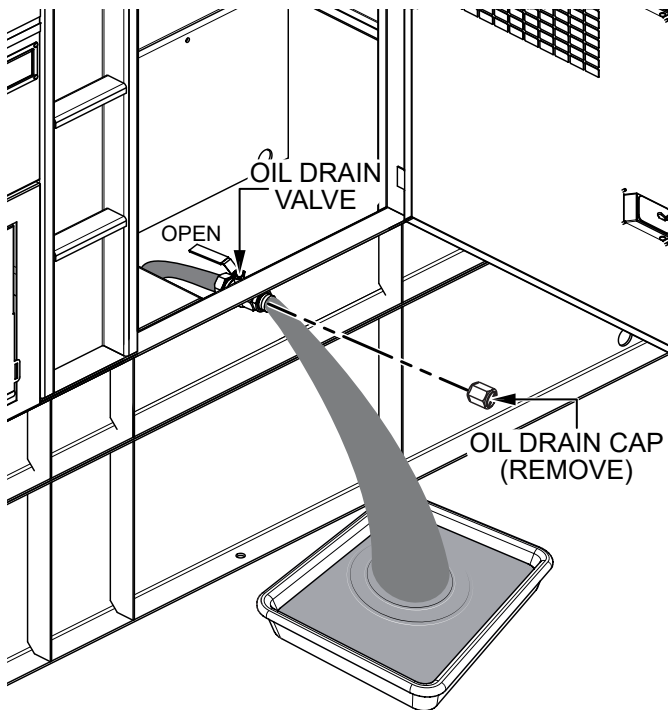

Figure 67. Draining The Engine Oil
4. Open the cabinet door and remove the **oil drain cap** (Figure 67).
5. Place the **oil drain valve** in the open position (Figure 67) and allow the oil to drain into a suitable container.